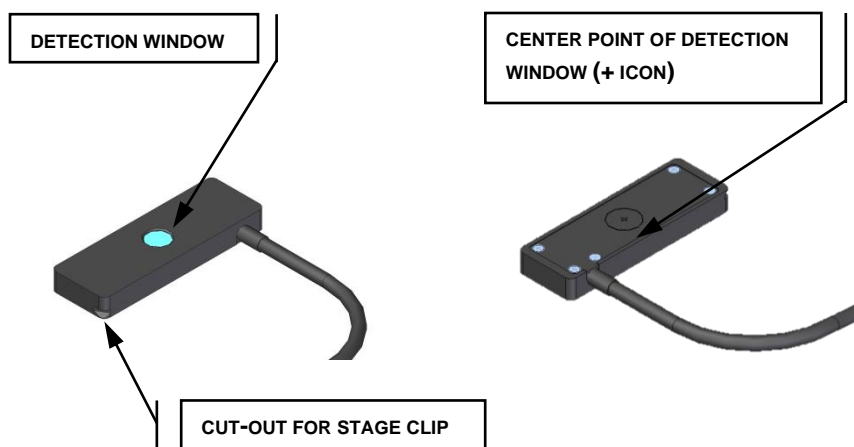

Figure 3: XP750 Top and Bottom Views
2. For upright microscopes, place the XP750 onto the stage with the detection window (refer to Figure 3) facing up, and approximately centered beneath the microscope objective lens.
2. For inverted microscopes, place the XP750 onto the stage with the detection window facing down and approximately centered above the microscope objective lens. The + icon (etched inside a circle) should be facing up (refer to Figure 3) which marks the center of the detection window.